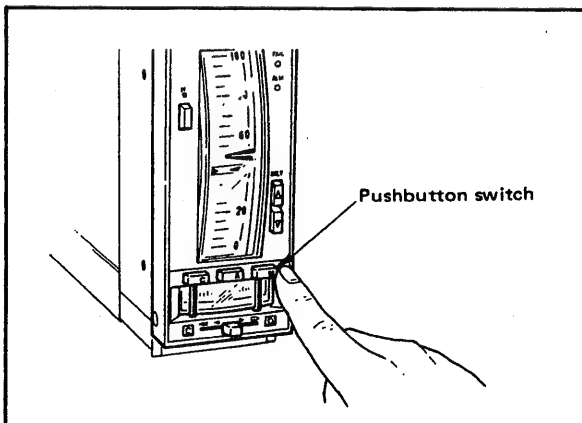

Figure 5-3-1. Selecting Manual Mode.
(1) Manual operation with the manual operation lever
- a. Press the **[M]** mode transfer switch. (Its built-in indicator lamp comes on.) (See Figure 5-3-1.)